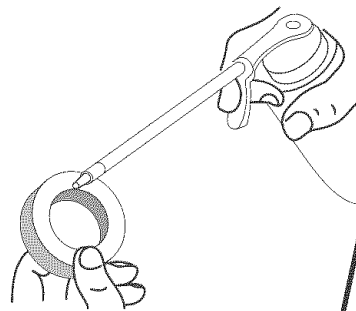

Fig. 21
4. Apply enough clean SAE 30 oil to lightly coat the filter (Fig. 21).